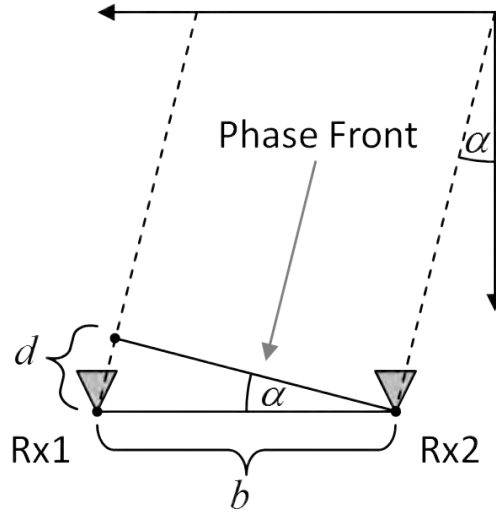

Figure 5.3: Estimation of the View Angle using two receiver antennas
The IMST's sentireTM Radar Module is equipped with two independent receiver antennas for measuring the Angle-of-Arrival of a received signal. This feature can be used to generate a 2-dimensional reflectivity map of the illuminated scene. To derive the formula for the view angle extraction, two receiver antennas separated by a baseline b are assumed (see figure 5.3). Further, a plane phase front shall arrive from the direction defined by the angle α . Consequently, the incident wave arrives at antenna Rx1 a little bit later compared with antenna Rx2. With the center frequency f_c , this causes a phase shift φ between both receiver antennas, given by the formula:
- the assumption of a plane phase front (see figure 5.3) is only valid for targets located in the far-field of the antenna,